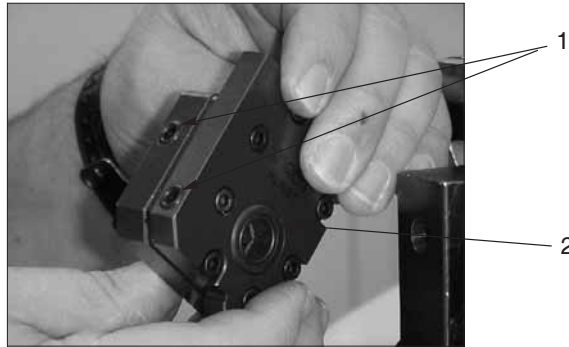

Figure 7-73 Location of the pump O-rings and seal
3. See Figure 7-73. Install the pump O-rings and seal in each pump that will be used.